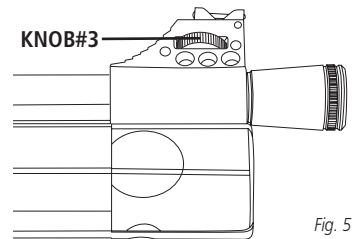

Fig. 5
- If the shot is too high, turn KNOB#3 clockwise. (Fig. 5)
- If the shot is too low, turn KNOB#3 counter-clockwise. (Fig. 5)